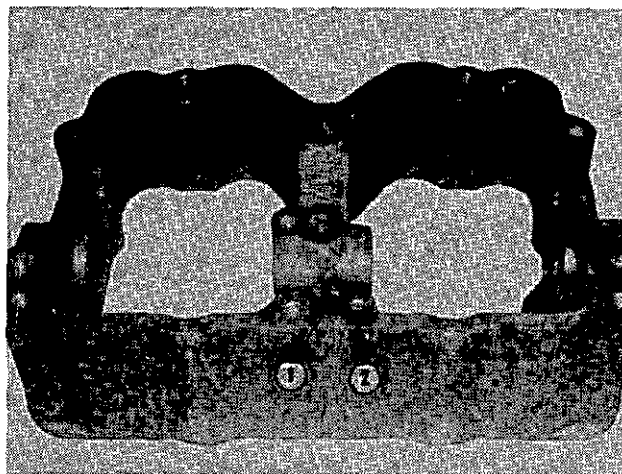

Fig. 3-2 (N10318-A). The Breather Vent Hole.
3. If the housing has a breather vent hole (1, Fig. 3-2), make sure it is free of dirt or other deposits.